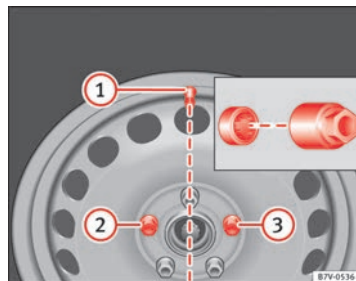

Fig. 185 Changing a wheel: Tyre valve ① and position of anti-theft wheel locking bolt ② or ③
Before mounting the full hubcap, the anti-theft wheel lock must be threaded into position ⇒ Fig. 185 ② or ③. Otherwise it will not be possible to mount the full hubcap.
Press the hubcap against the wheel so that the space for the valve fits over the tyre valve ⇒ Fig. 185 ①. Make sure that the hubcap is correctly fitted all the way around the wheel. ■
For wheels with full hubcap, the anti-theft wheel lock must be threaded into position ⇒ Fig. 185 ② or ③ before mounting the hubcap. Otherwise it will not be possible to mount the full hubcap.
- Screw on the anti-theft locking bolt with the adapter in position ⇒ Fig. 185 ② or ③ clockwise and tighten gently.